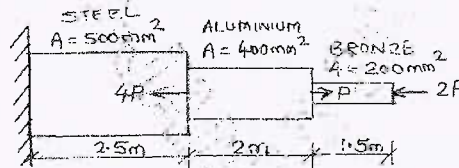

Fig. Q1 (c)
- c. A stepped bar is subjected to forces as shown in Fig. Q1 (c). Find the maximum value of P that will not exceed a stress in steel of 140 MPa, in aluminium of 90 MPa or in bronze of 100 MPa. (10 Marks)